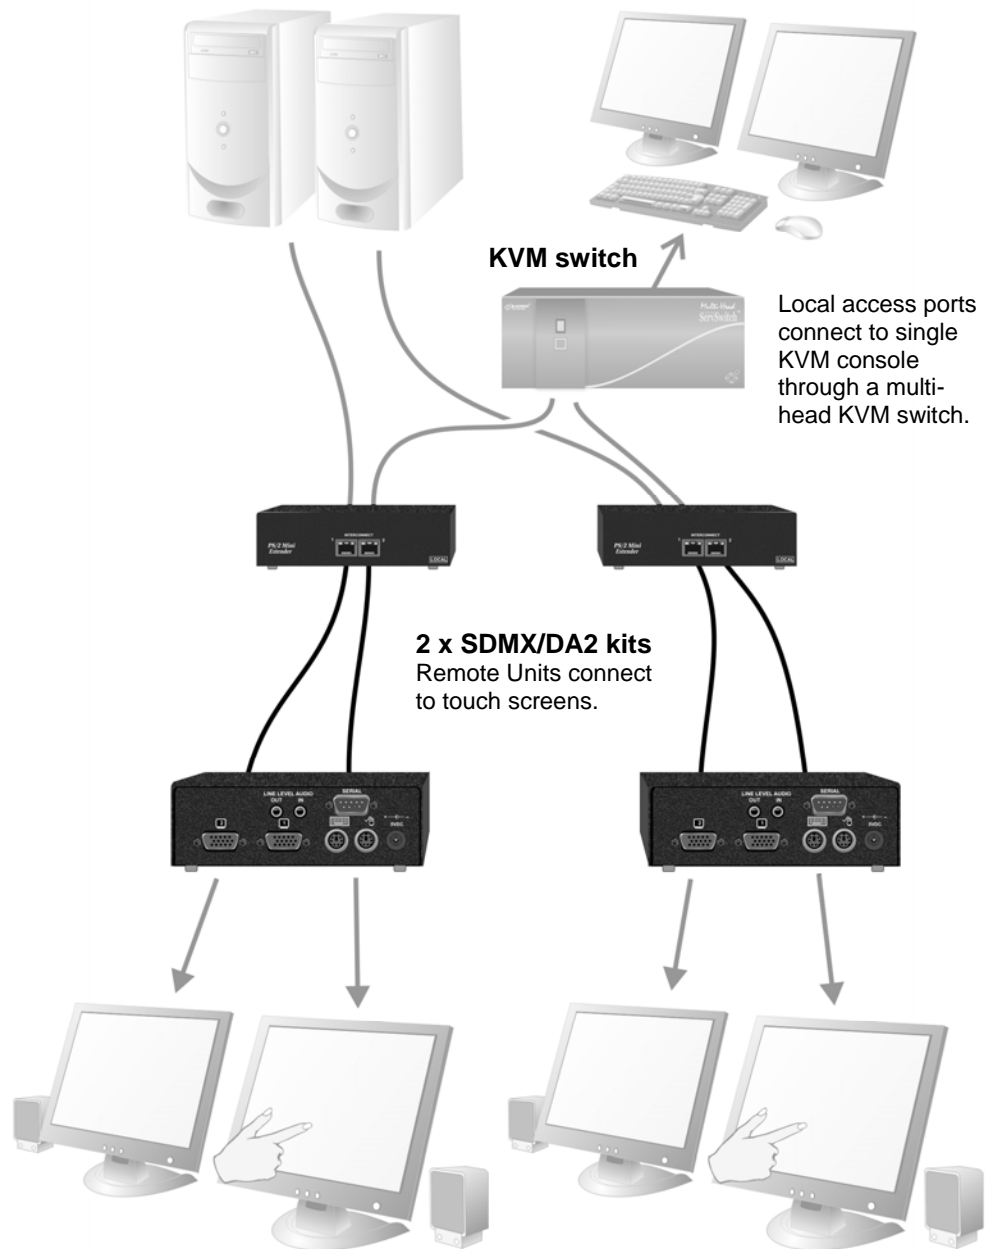

Figure 8 Touch screen network with local access to CPU through KVM switch
- Remote serial touch screens with local access through a KVM switch (Figure 8). Requires two SDMX/DA2 kits.